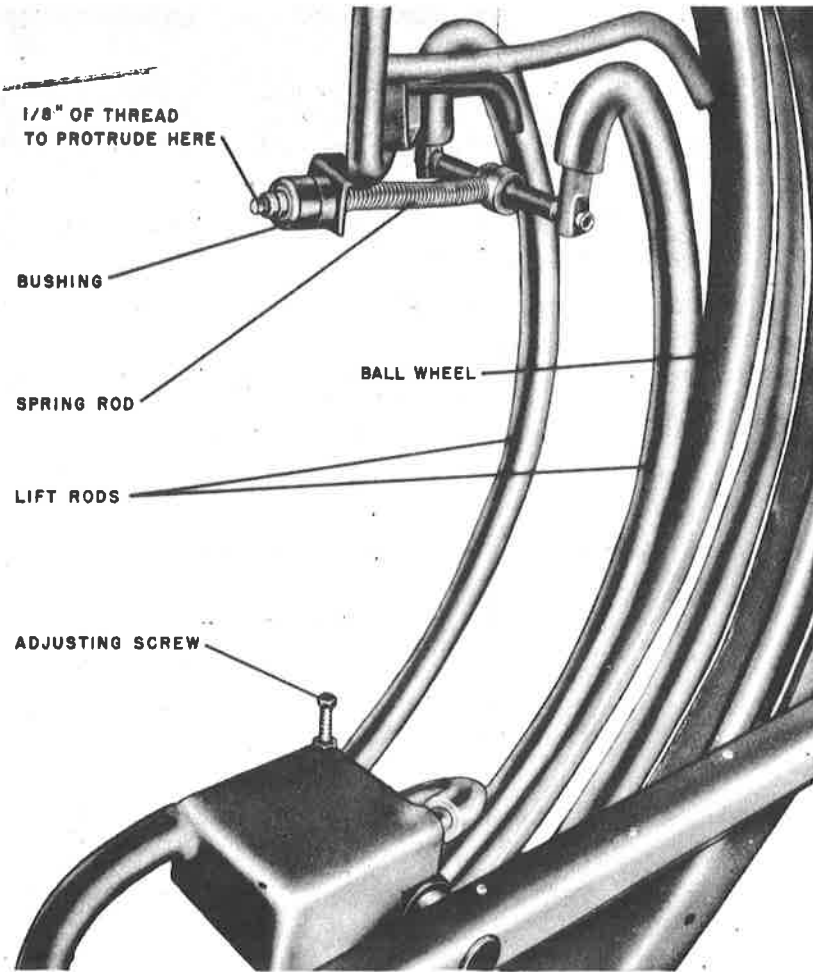

Figure 81. Ball Lift Rod Adjustment
26. BALL LIFT ROD ADJUSTMENT. (FIGURE 81)